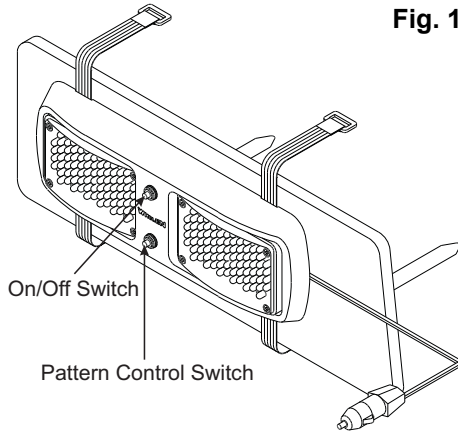

Fig. 1
2. Position the FlatLighter against the windshield side of the visor (*Fig. 1*). Be sure to position the power cord between the FlatLighter and the visor.